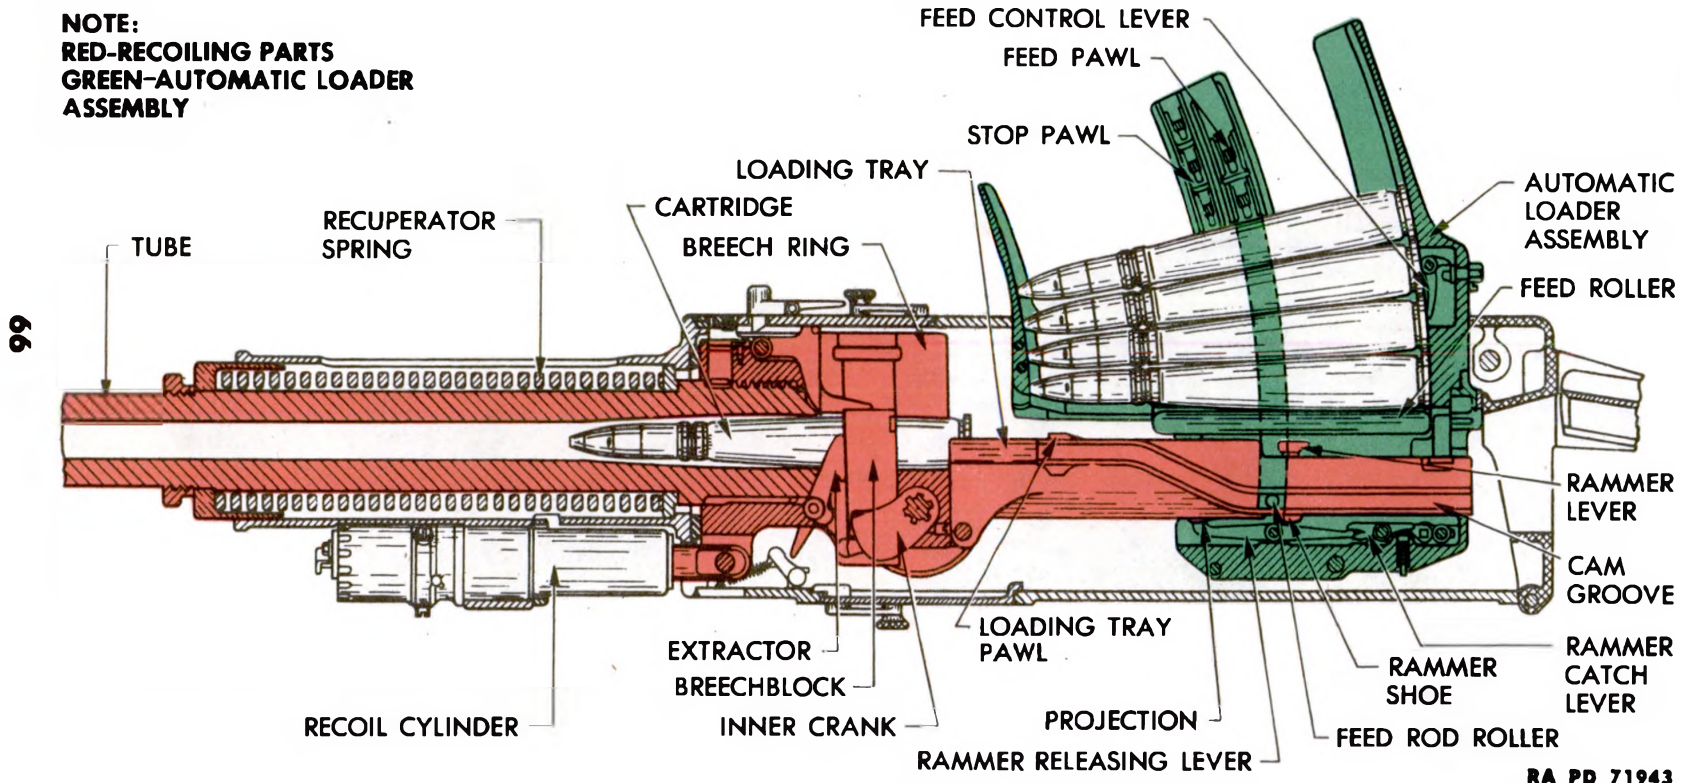

Figure 43 – Automatic Firing Cycle – Fifth Stage – Cartridge Being Rammed
(5) The rammer shoe is pulled forward by the rammer spring, the rammer levers carrying the cartridge forward with the shoe. As the rammer shoe nears the end of its travel, the cam slots in the tops of the loading tray force the rammer levers outward, releasing the cartridge. The cartridge is thrown forward through the U-shaped channel in the top of the breechblock and into the chamber of the gun. Figure 43 shows the position of the parts as the cartridge enters the chamber.